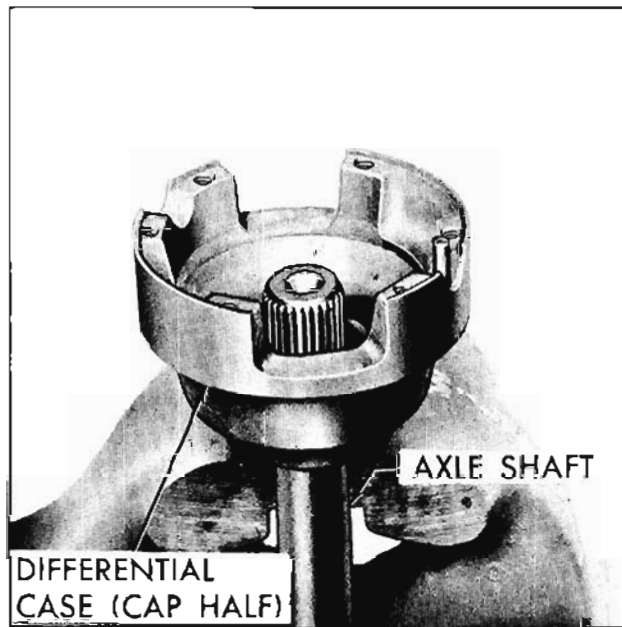

Fig. 10-135 Assembling Cap Half of Case
1. Clamp one axle shaft in a vise allowing three inches to extend above vise jaws; then place the cap side of differential case over extended axle shaft with interior of case facing up. (Fig. 10-135)